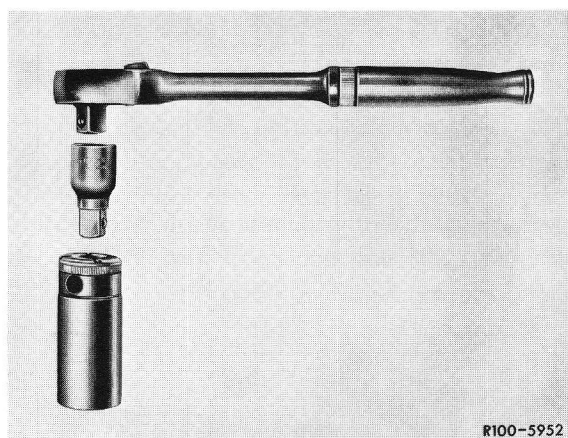

Fig. 3
b) Push cover out of pulley (crankshaft) with a screw driver. Then position tool combination (Fig. 3) against hexagon bolt of crankshaft and rotate engine.